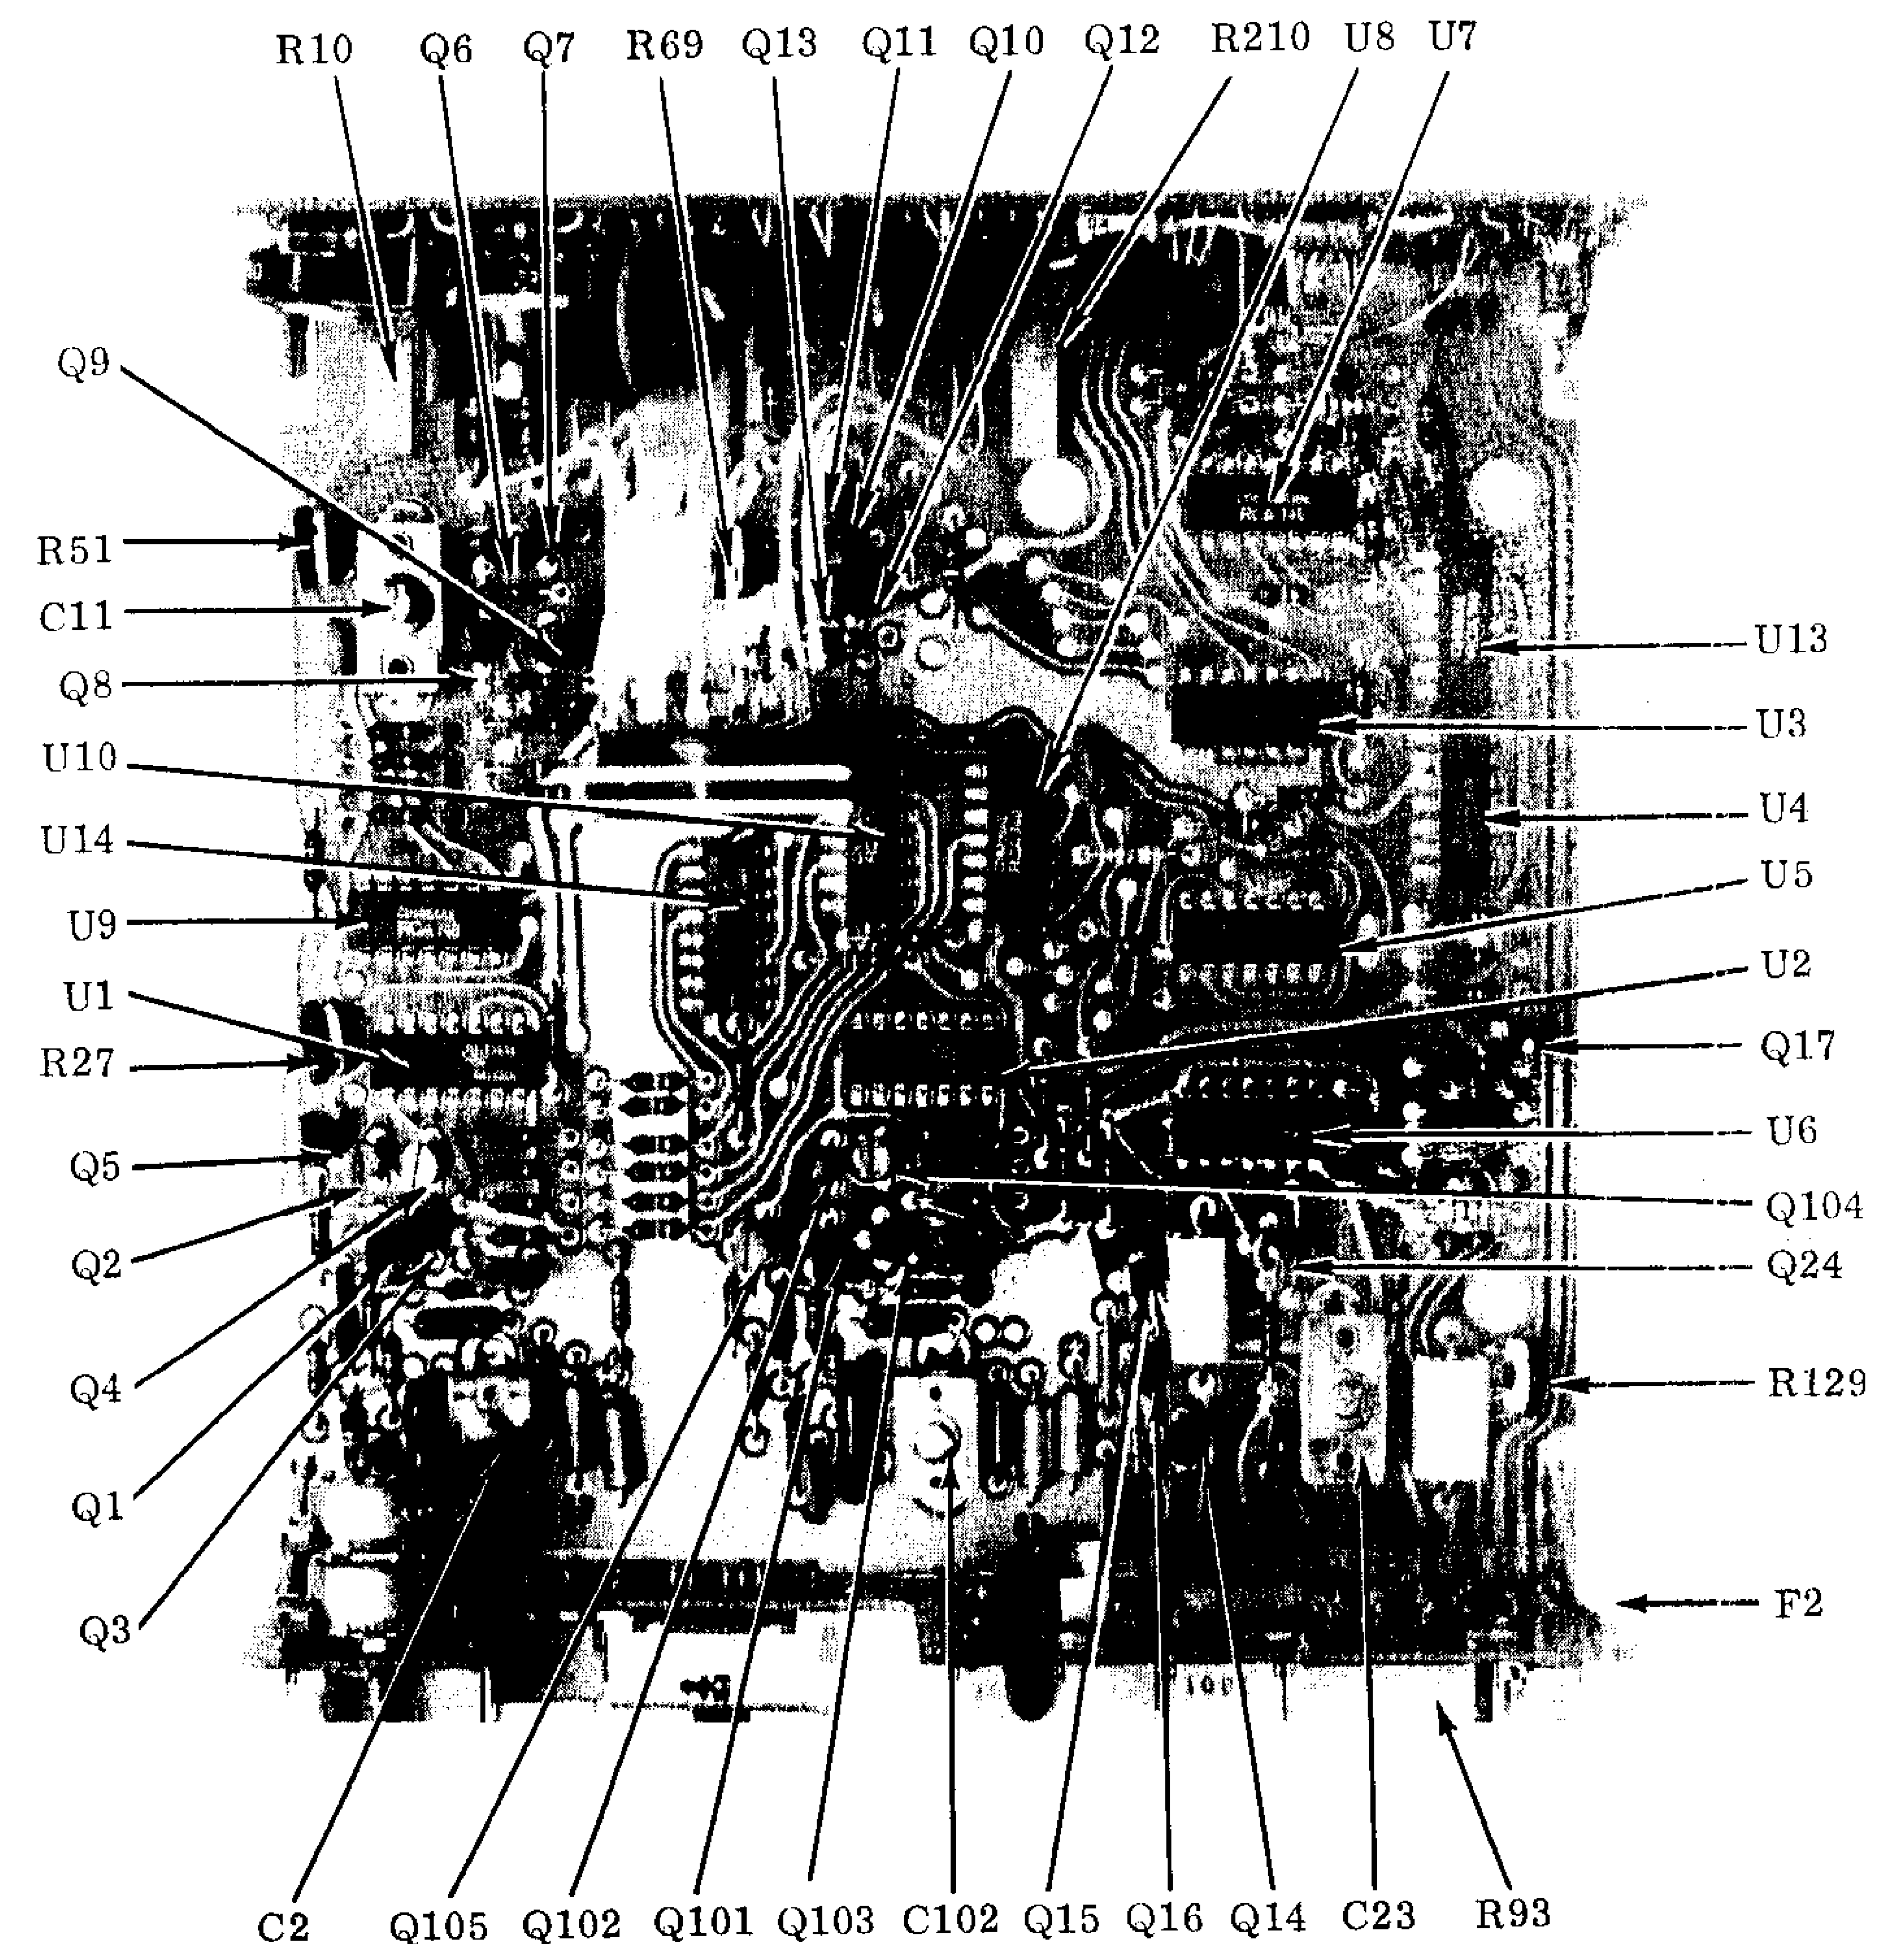

Figure 4-2. Component Location - Main Board
- Use internal trigger mode and AC vertical coupling. Set time/DIV to  $5 \mu\text{s}/\text{DIV}$  with time vernier in CAL (CW) position.
- Adjust R69 (figure 4-2) and horizontal position control so that trace is approximately  $1/32$  inch longer than five divisions of graticule in horizontal direction.
- Adjust R93 (figure 4-2) and horizontal position control for best coincidence of vertical lines of square wave trace with vertical lines of graticule.
- Adjust C23 (figure 4-2) and horizontal position control for best coincidence of vertical lines of square wave trace with vertical lines of graticule.
- a. Using AC vertical input coupling and internal triggered mode, connect calibrator output to CH2 vertical input of Miniscope. Set vertical V/DIV controls to .5V/DIV. Center trace vertically. Set vernier to CAL (CW).
- b. Adjust R51 (figure 4-2) so that trace amplitude is exactly two graticule divisions high.
- d. Repeat step 4-12b using R27 (figure 4-2).
- a. Using CH2 AC vertical input coupling and internal triggered mode, connect a 100 KHz square wave to vertical input. Set vertical V/DIV to .5V/DIV. Set vernier to CAL (CW). Set Horizontal (Time/DIV) switches to 5  $\mu$ s/DIV.
- b. Adjust C11 (figure 4-2) until truest display of a square wave is obtained.
- b. Adjust C202 (figure 4-2) until the truest display of a square wave two divisions high is obtained.
- d. Repeat 4-14b using C2 (figure 4-2).